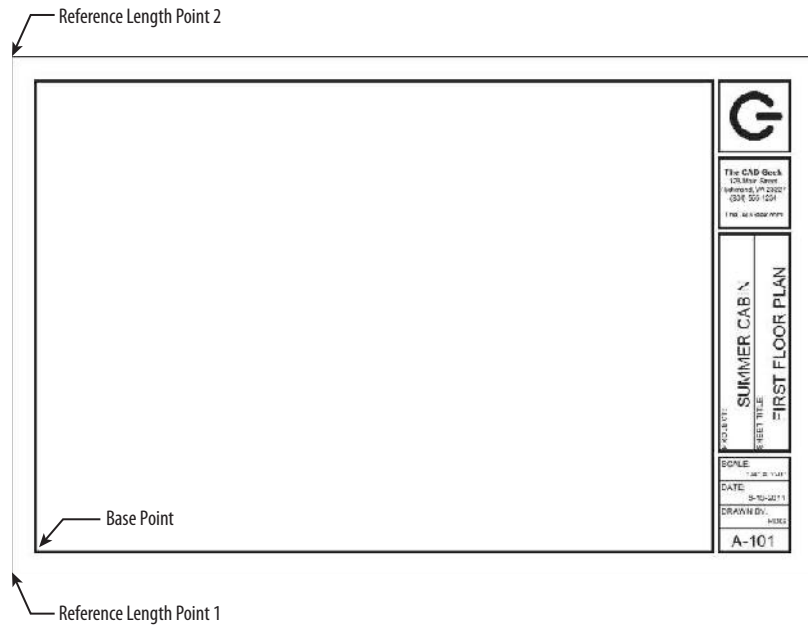

FIGURE 14.5 : Specifying a reference length by using the SCALE command
- b. Pick the lower-left corner of the outer boundary and then the upper-left corner of the outer boundary (see Figure 14.5).